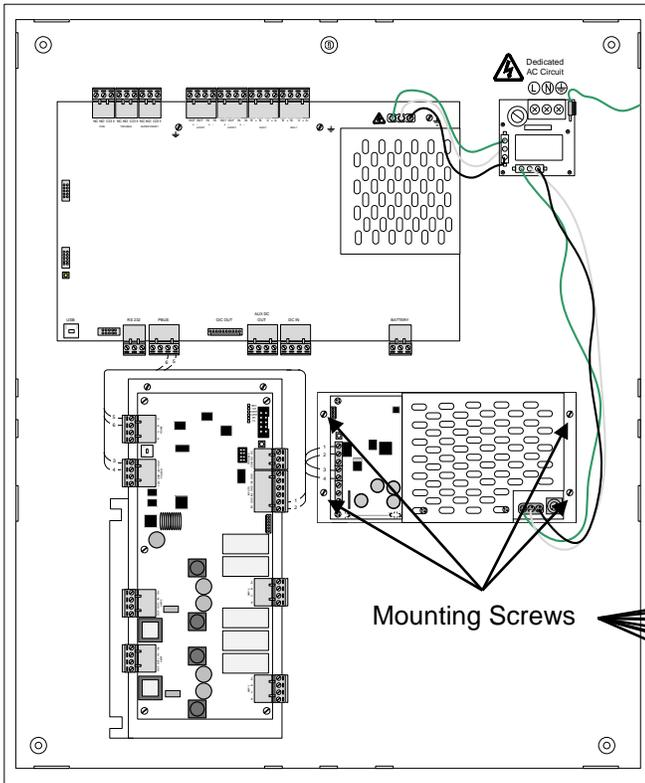

Figure 36 - NX-CC[x]-16 or NX-CC01-BB-BB Back Box
The NX-EM-PSU6 power supply charger mounts below the NX-FACP base card on the right side of the NX-CC01-BB-BB and NX-CC02-BB-BB back box (see figures 36 and 37). In addition, it is pre-mounted in the NX-FACC-1 command center in the same location as the NX-CC01-BB-BB backbox.
To install the NX-EM-PSU6 power supply charger, place the module over the four (4) standoffs located on the right side of the back box below the NX-FACP base card and secure with the four (4) screws provided with the NX-EM-PSU6 module (see figure 36 and 37). It is critical that these screws be tightly secured as they are required for proper earth ground connection.